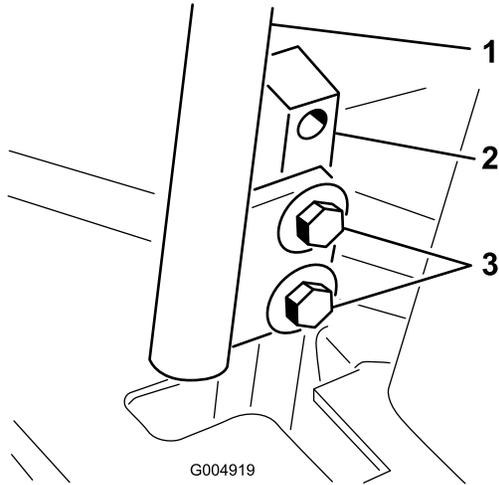

Figure 90
3. Loosen the bolts securing the control levers (Figure 90).